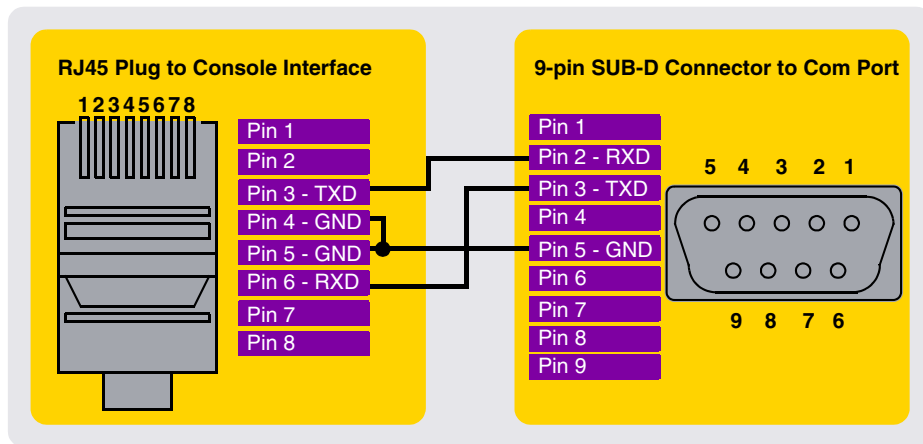

Figure 17 Console Cable for the Terminal Program
- Connect the CXU's front access console interface (RJ45) via a straight serial V.24 connecting cable (see Figure 17) with e.g. PC running HyperTerminal. The required interface settings for the terminal program are: